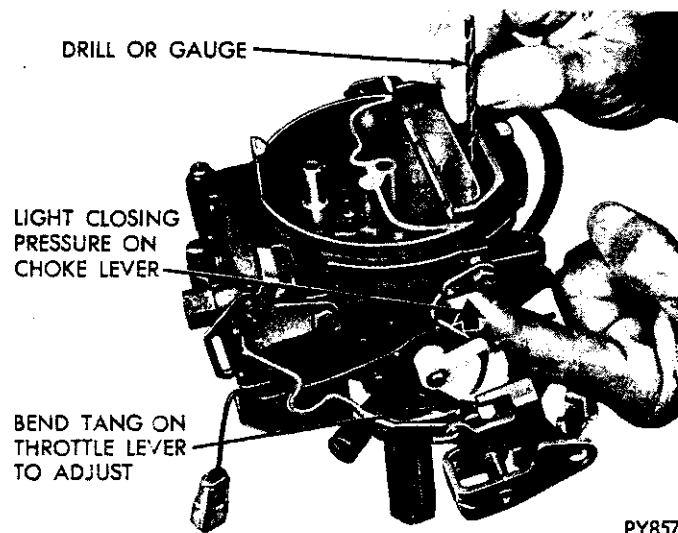

Fig. 23—Choke Unloader Adjustment (Wide Open Kick)
(1) Hold throttle valves in wide open position. Insert specified drill (see Specifications) between upper edge of choke valve and inner wall of air horn. (Fig. 23).
(2) With a finger slightly pressing against shaft lever, a slight drag should be felt as drill is being withdrawn. If an adjustment is necessary, bend unloader tang on throttle lever until correct opening has been obtained. (Fig. 23). Use Tool T109-213.